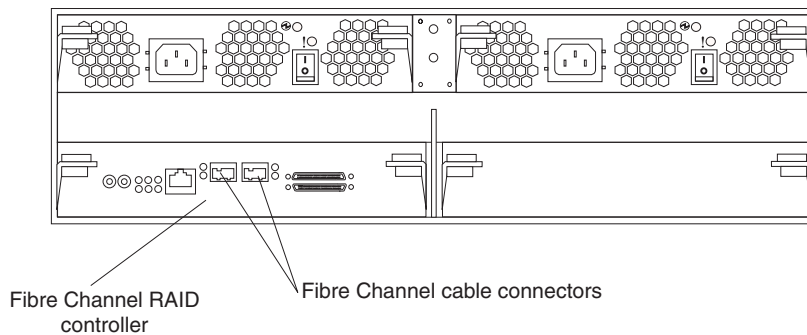

Figure 36. Host-system cable connectors
2. Connect the host-system cables to the RAID controller or to switches. Figure 36 shows the location on the RAID controllers where the host-system cables are connected.